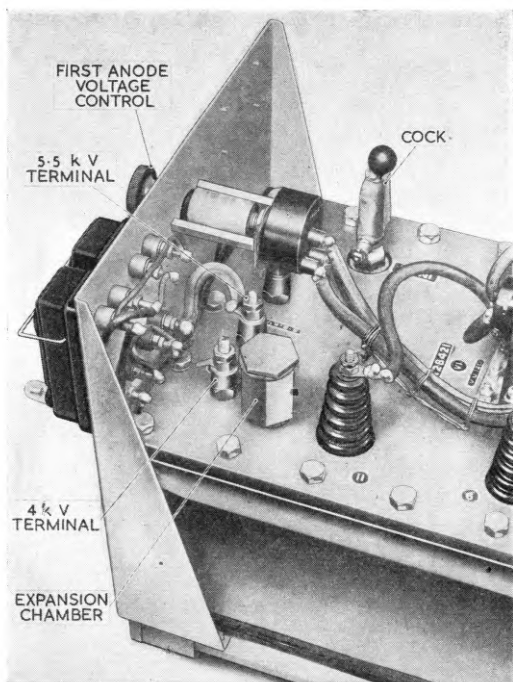

Fig. 42. Power units Type 377 and 451
66. This paragraph gives details of the "jumpering" necessary for AMES Type 21 Mk. 5. When making a connection, first locate the bunch of cables bearing the number in the first column ; next identify the tail bound by tape of the colour given in the second column. Insert this tail in the Jones socket lettered and numbered as detailed in the third and fourth columns ; the positions of all the Jones plugs and sockets in the vehicle are shown in fig. 42 of Chap. 4. Tails which are to be inserted in a spare socket must be plugged into one of the Jones sockets marked SPARE ; it is most important that these leads are not left lying about.
75. Lower the right-hand control desk to expose the power unit (fig. 42). Behind the front panel can be seen two terminals marked 4kV and 5.5kV respectively. Check that the tapping is connected to the 5.5kV terminal and change if necessary.